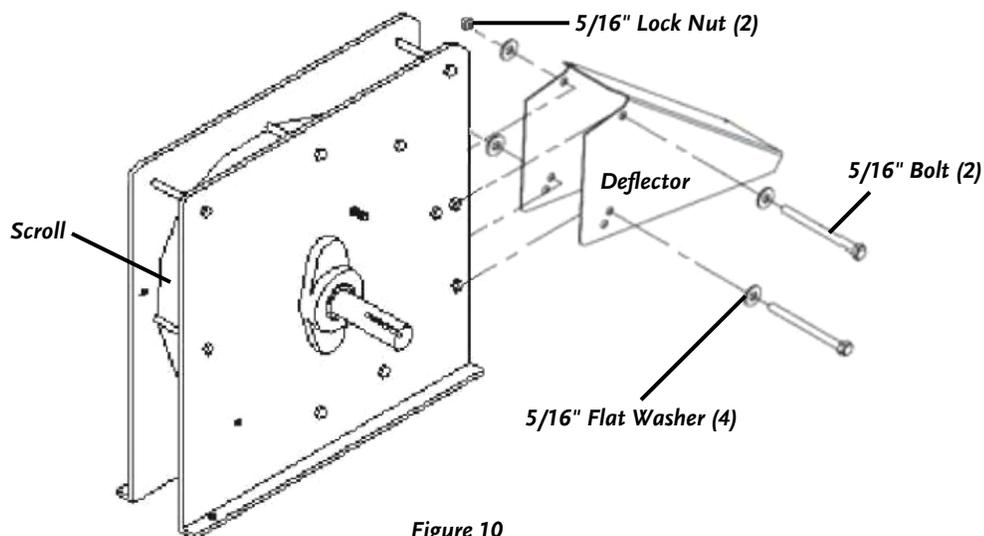

Figure 10
2. Remove any material left in the Chipper Hopper and then remove the Deflector (Bottom Discharge model) by removing the two (2) 5/16" x 4" Bolts (**Figure 10**). For the Top Discharge model, remove the Discharge Chute (**Figure 3** on page 17) by just loosening the two (2) 5/16" x 4" Bolts.
1. Hold the Deflector (**Figure 10** on page 28) in place at the Discharge opening of the Chipper.
2. Place a 5/16" Flat Washer on a 5/16"-18 x 4" Bolt and then slide the Bolt through both the top two (2) holes of the Chipper body and the Deflector.
NOTE: *Be certain that the Bolt attaching the Deflector to the Chipper passes through the pipe (tube) welded to the Scroll (**Figure 10** on page 28).*